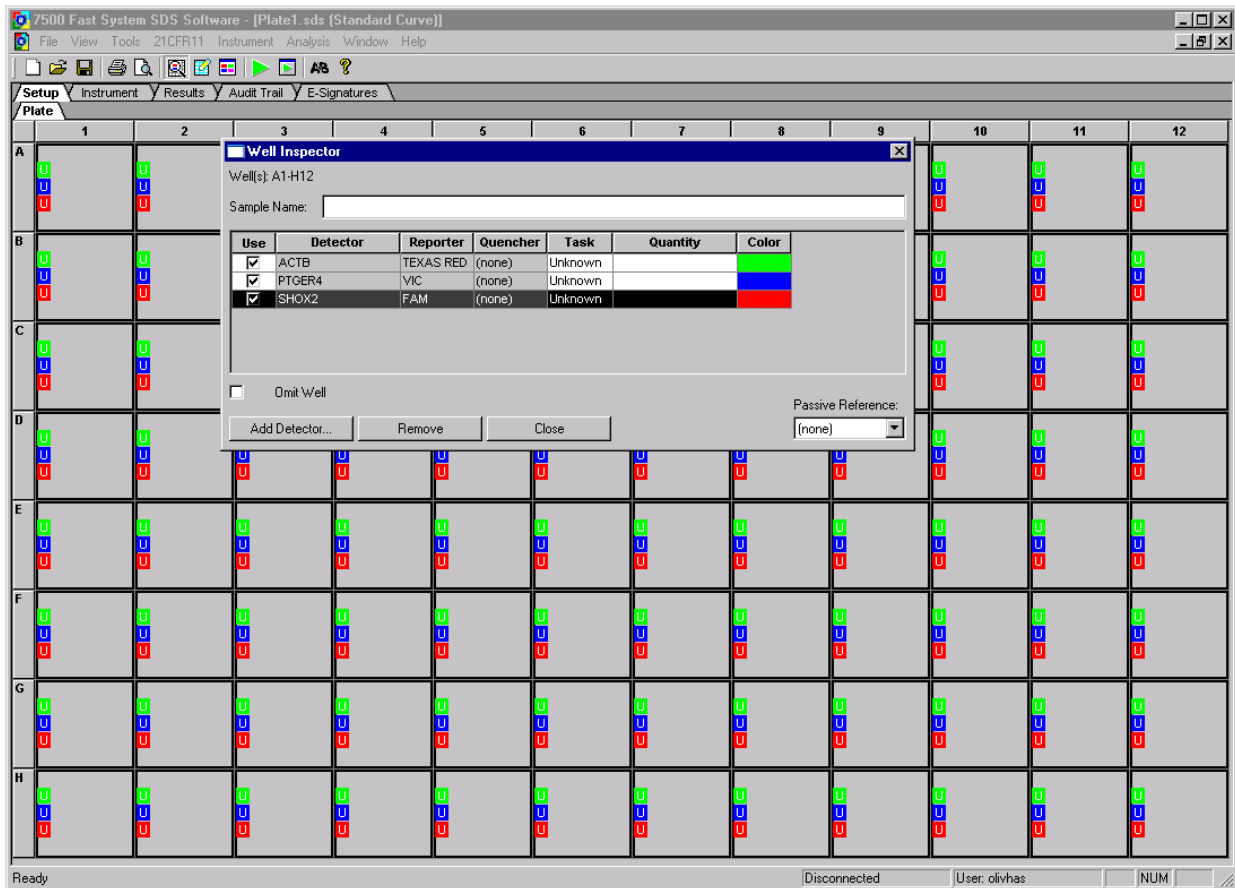

Figure 2: Screenshot after confirming settings in the 'Well Inspector' window.
- Check the Passive Reference setting to be “(none)” (see Figure 2).